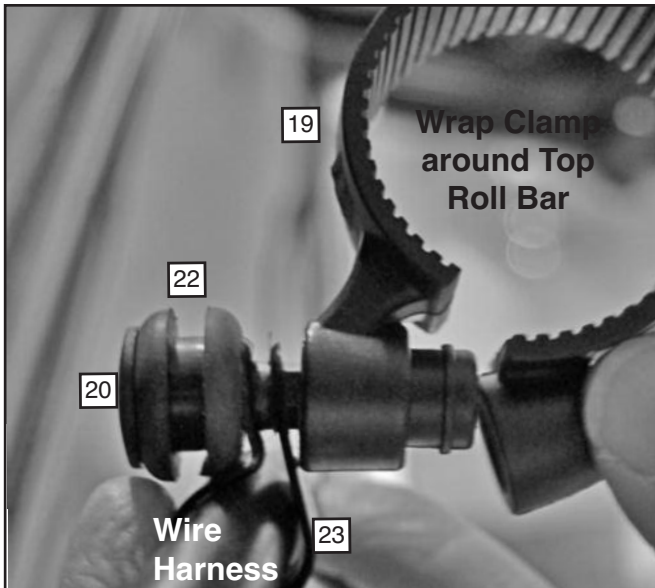

Figure 5
Assemble the cable clamp around the harness about 8" from the motor end, and insert the retaining pin (20) through the grommet (22) and cable clamp (23) as shown in **Figure 5**.